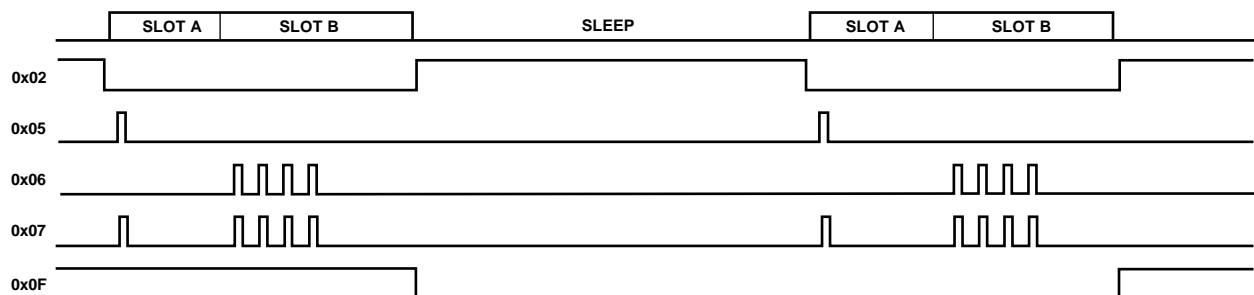
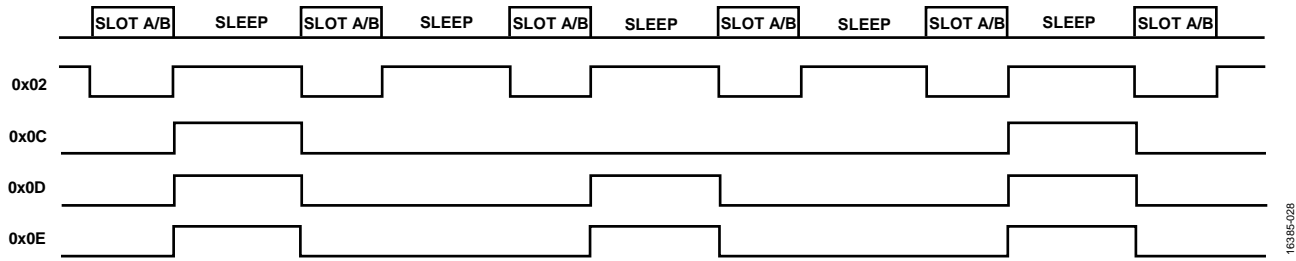

Figure 34. Optional Timing Signals Available on GPIOx—Register 0x0B, Bits[12:8] or Bits[4:0] = 0x02, 0x05, 0x06, 0x07, and 0x0F
Figure 35. Optional Timing Signals Available on GPIOx—Register 0x0B, Bits[12:8] or Bits[4:0] = 0x02, 0x0C, 0x0D, and 0x0E
The various available timing signals are controlled by the settings in Register 0x0B. Bits[12:8] of this register control the timing signals available on GPIO1, and Bits[4:0] control the timing signals available on GPIO0. All of the timing signals described in this data sheet are available on either (or both) of the GPIO0 and GPIO1 pins. Timing diagrams are shown in Figure 34 and Figure 35. The time slot settings used to generate the timing diagrams are described in Table 17.
**Table 17. ADPD188BI Settings Used for the Timing Diagrams Shown in Figure 34 and Figure 35**